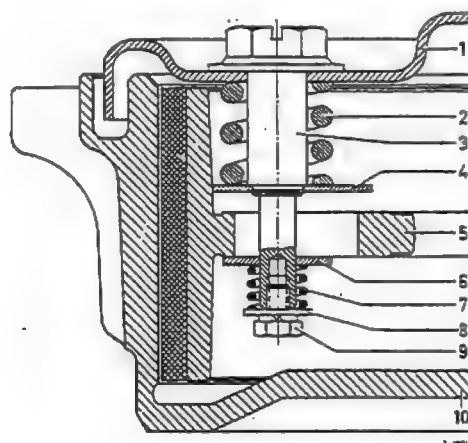

Fig. 42-21/1
Caution, do not use too much Molykote Paste! When installing the washer (6) take care to ensure that there is no ridge on the washer and that the smooth side of the washer points toward the brake shoe. Also lightly coat the contact face of the washer with Molykote Paste (Fig. 42-21/1).